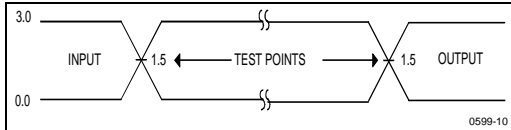

Figure 10. High Speed Test Waveform
- 5% V_{CC} specifications apply to the high-speed test configuration (Figures 10 and 12).